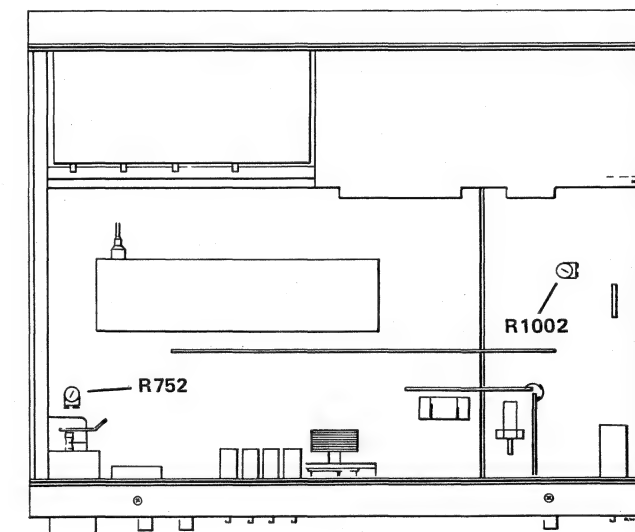

Figure 44 Test points
- Adjust R1002 (Tuning system 2, figure 44) for symmetrical sinewave on the oscilloscope.
- Turn R752 (figure 44) counterclockwise to increase the touch sensitivity on the Tuning knob.